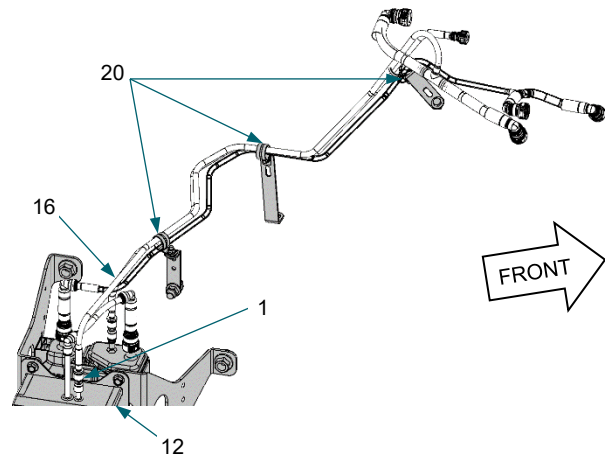

Figure 6: engine to EVAP pump module PCV line (16), EVAP pump module (12); quick disconnect fitting (1), P-clamps (20).
3. Loosen P-clamps (20) to release line engine to EVAP Pump module PCV line (16). *Figure 6 Refer to OEM procedure.*